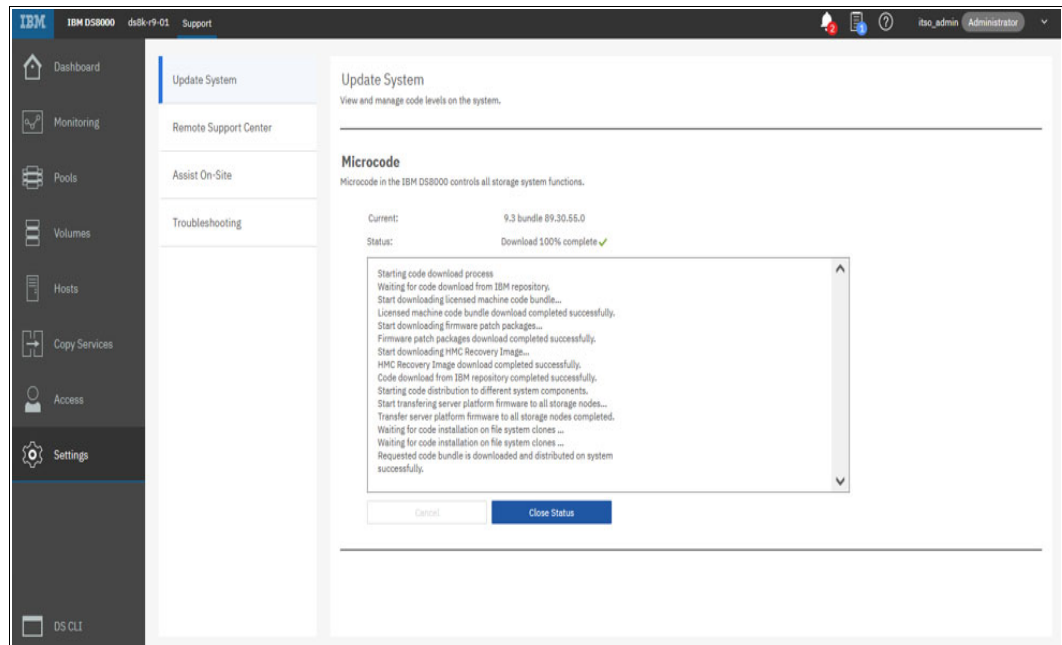

Figure 11-8 Microcode download complete message
3. The user can monitor the process until completion. After the download completes, click **Close Status**, as shown in Figure 11-8.